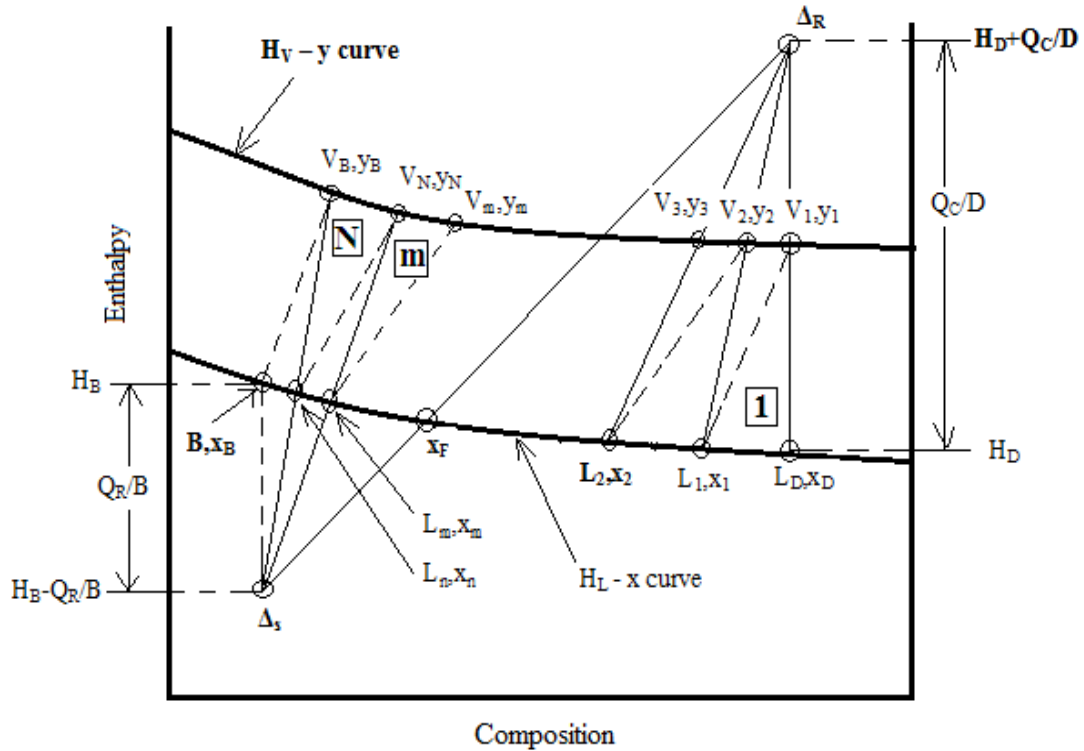

Figure 5.23: Representation of estimation of no of stages by Ponchon-Savarit Method
Step 3: Estimate the reflux rate for the separation and locate the rectifying section difference point as Δ_R as shown in Figure 5.23. Point y_1 is the intersection point of line joining point x_D and Δ_R and H_{V-y} curve.